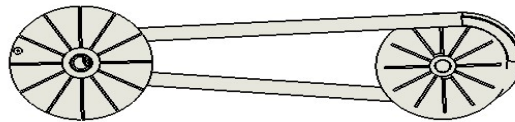

Figure 26
Step 2. Hands wrenched upward big belt wheel. then compression spring; " another person move the belt to the other direction. (Fig. 26)